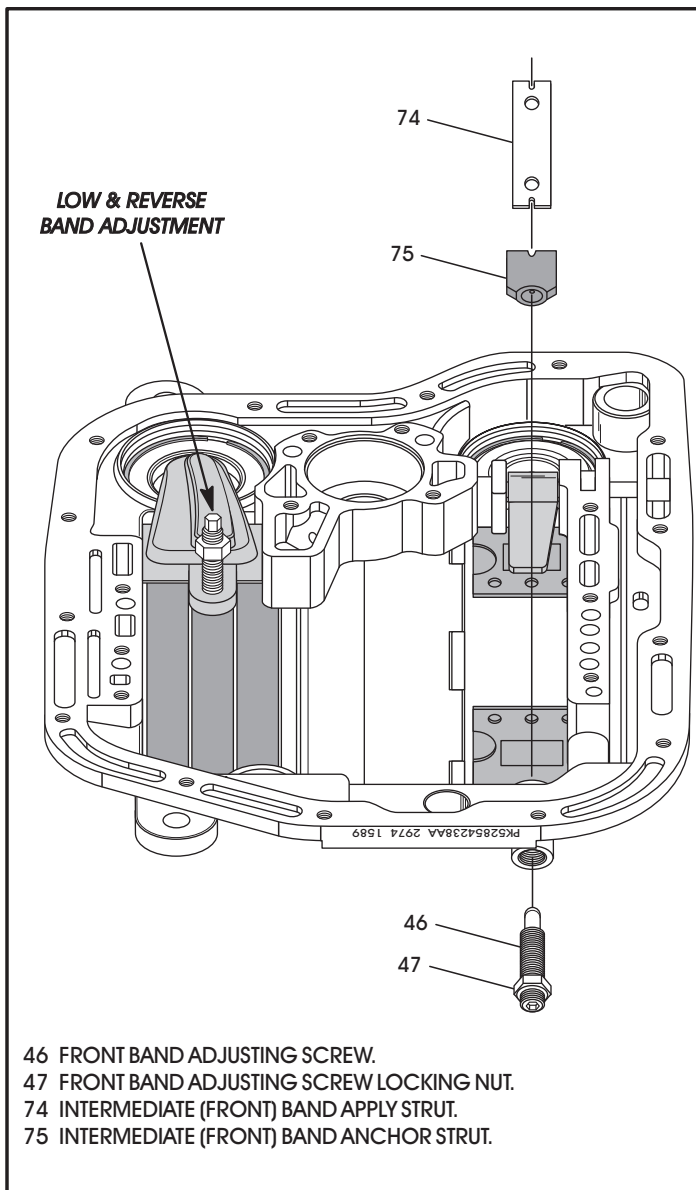

Figure 225
19. Lay the transmission assembly on the bench with the pan surface facing up (See Figure 225).
21. Lube the front band adjusting screw threads with a light coat of oil, and install into the case, as shown in Figure 225.
22. Install the front band anchor strut and the apply strut, as shown in Figure 225, and tighten the adjusting screw to hold them in place.